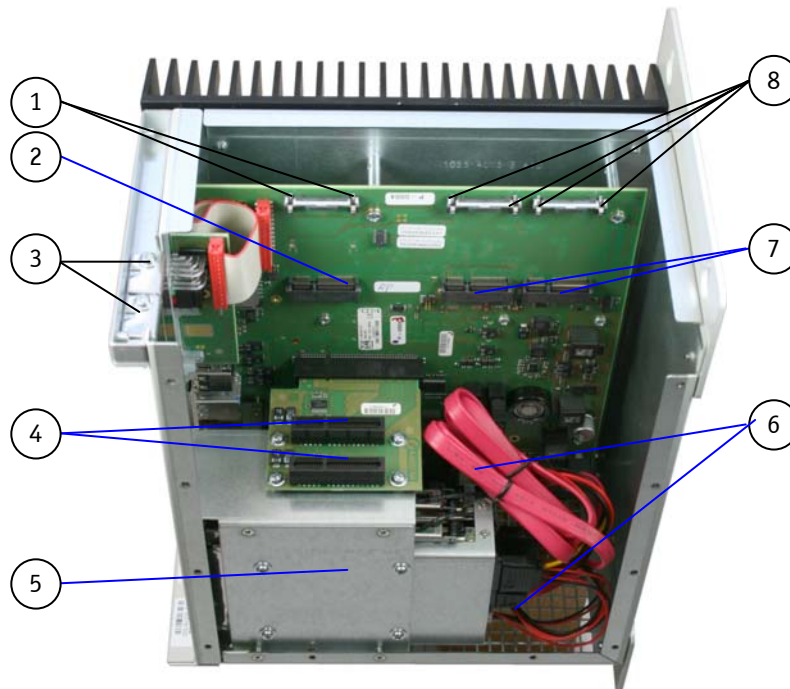

Fig. 33: KBox C-101 without top and right side cover
6. For better accessibility of the internal PCIe slots, PCIe slot for Mini card and the mSATA SSD connectors you may also remove the right side cover of the KBox C-101 (Fig. 33). Loosen the externally accessible fastening screws that secure the right side cover (Fig. 32 and Fig. 22, pos. 2 and 3), Pull the right side cover out, to detach it from the sideways mounted bolts. Put the right side cover and the screws aside for later use.
2. Locate the PCIe Mini card slot and the corresponding fixing bolts. (Fig. 33, pos. 1 and 2).
3. Insert the PCIe Mini card into the slot (Fig. 33, pos. 2) and rotate it down with the fixing holes of the card over the fixing bolts.
2. Locate the mSATA slots and the corresponding fixing bolts. (Fig. 33, pos. 7 and 8).
3. Insert each mSATA SSD into the corresponding slot (Fig. 33, pos. 7) and rotate it down with the fixing holes of the mSATA SSD over the fixing bolts (Fig. 33, pos. 8).